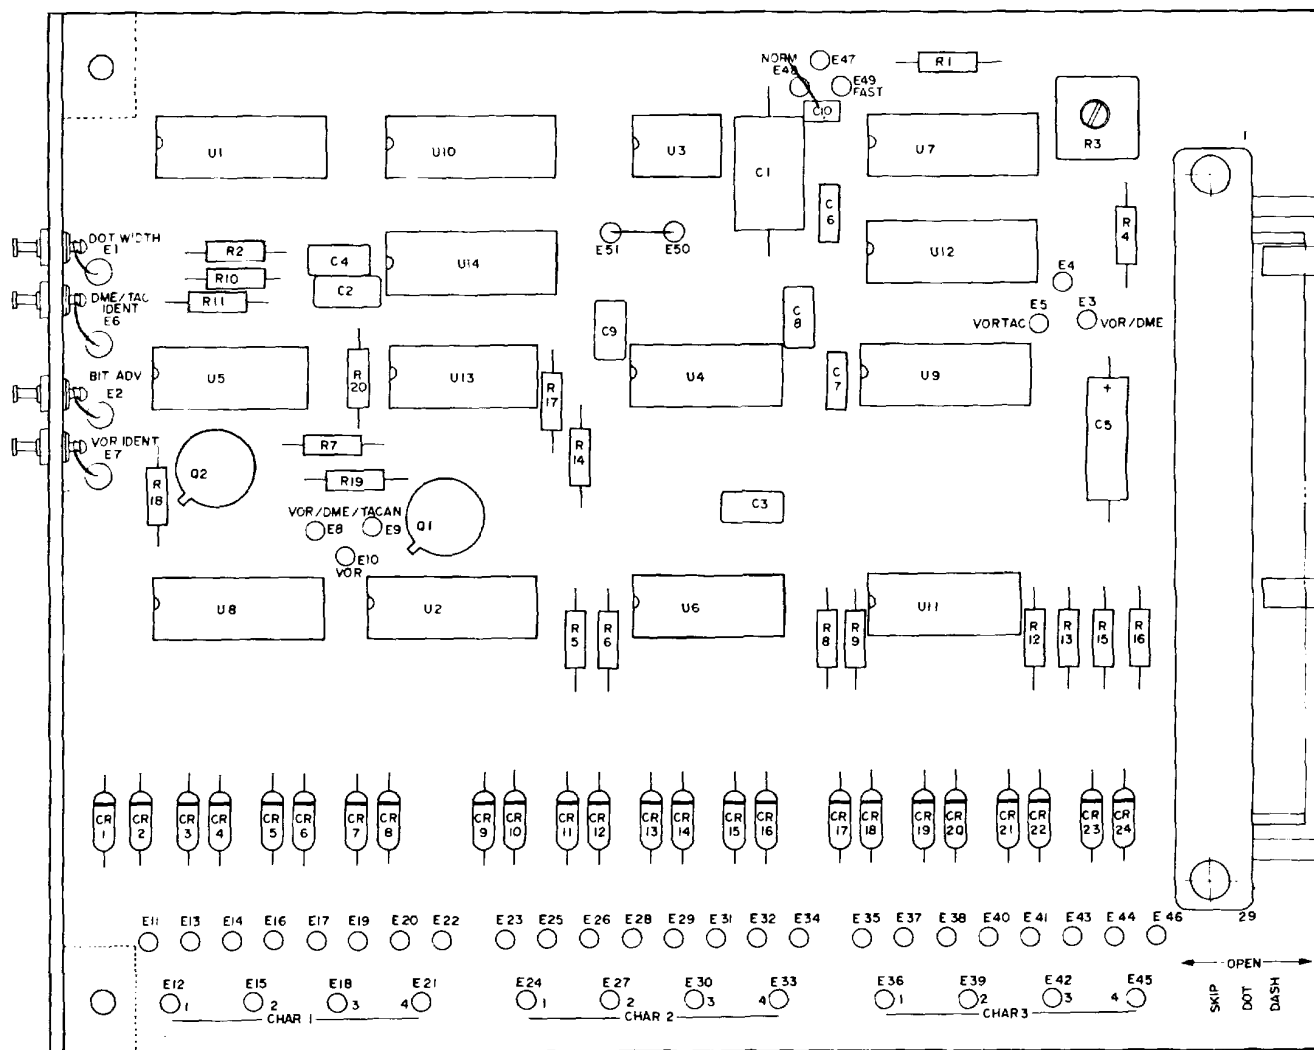

Figure 6-2. Ident Keyer Circuit Card Assembly, 1A4A1 Parts Location Diagram
b. Ident Keyer Circuit Card Assembly (1A4A1) Disassembly. This circuit card assembly should be removed only when servicing or component replacement is required. Refer to figure 6-2 for location of component to be replaced. To remove this circuit card assembly, grasp both edges of the card and pull up.